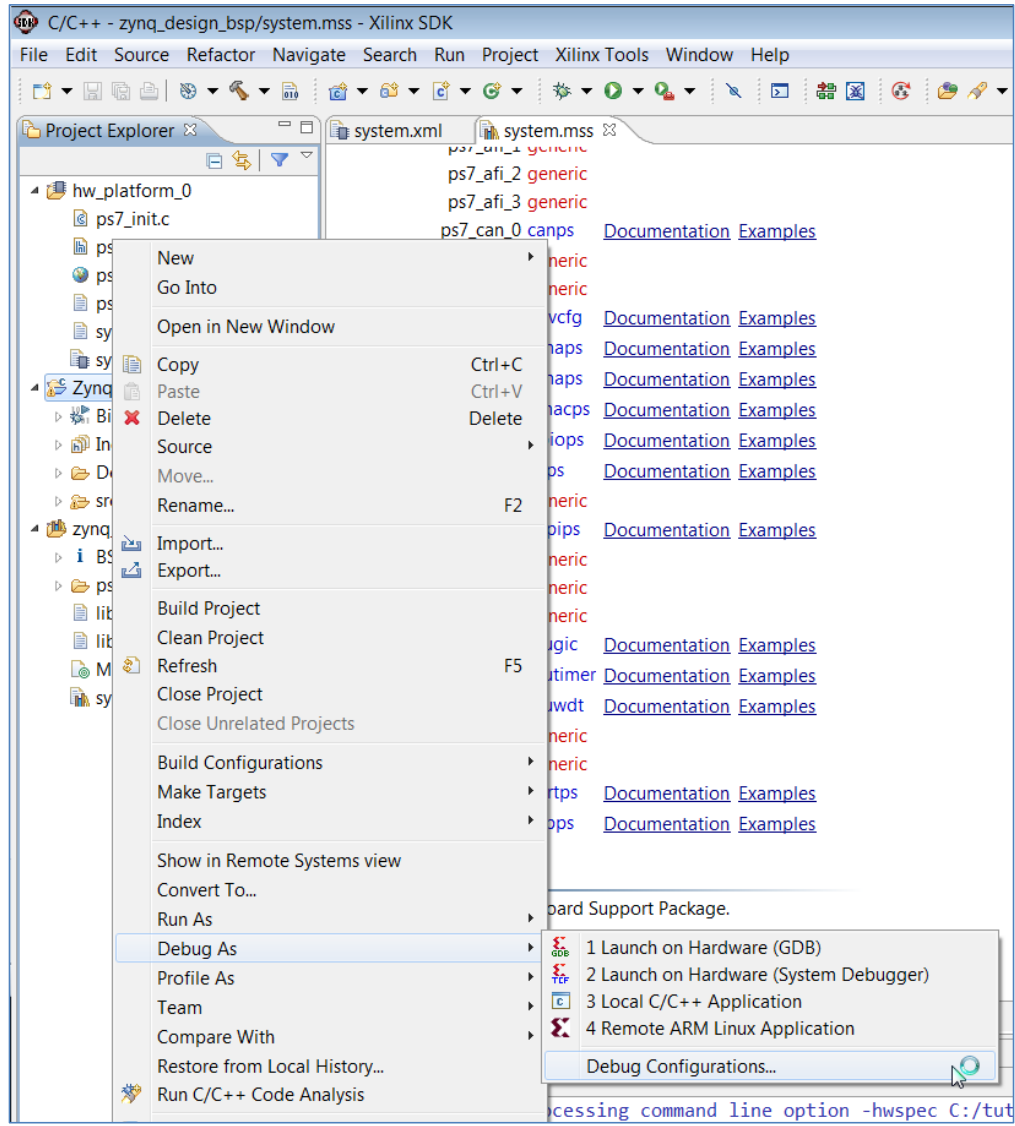

Figure 40: Launch on Hardware
6. Select **Debug As** and **Debug Configurations** (FIGURE 40).